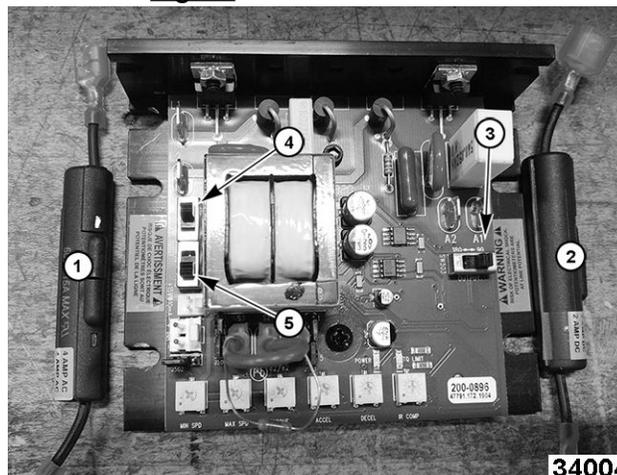

Fig. 65
### 2ND GENERATION CONTROLLER BOARD SHOWN IN Fig. 65
- Fuse - 1, Fig. 65, 4 amp AC.
- Fuse - 2, Fig. 65, 2 amp DC.
- 4 and 5 switches shown in Fig. 65 are both set at 115V.
- 3 switch shown in Fig. 65 should be set at 90.